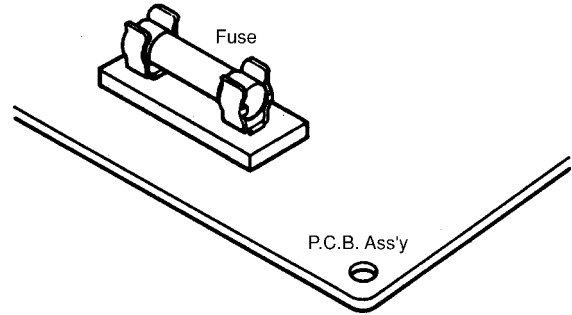

Fig. 5
- Remove PCB Ass'y from electrical component box. Then pull out the fuse from PCB Ass'y (Fig. 5).